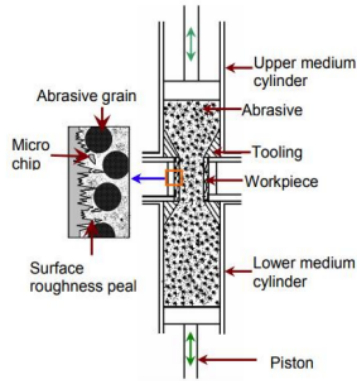

Fig.2. Principle of material removal mechanism in two-way AFM process
- The medium is extruded, hydraulically or mechanically, from the filled chamber to the empty chamber via the restricted passageway through or past the workpiece surface to be abraded (Fig.2).